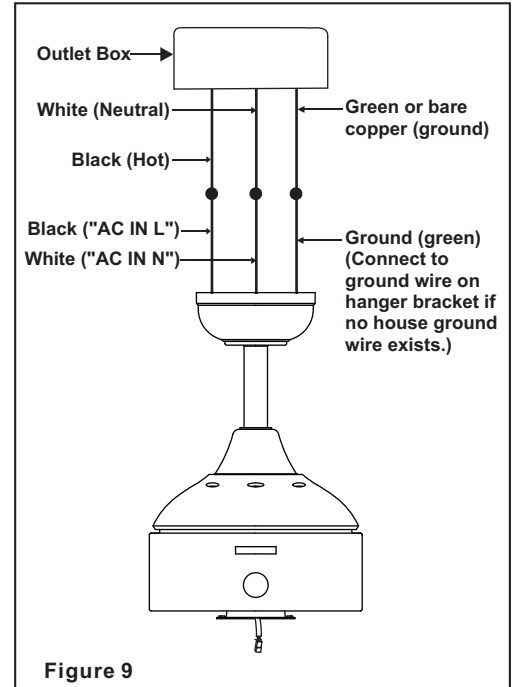

Figure 9
**Step 1.** Motor to House Supply Wires Electrical Connections: Connect the WHITE wire (Neutral) from the outlet box to the WHITE wire marked "AC in N" from the motor. (Fig. 9)
**Step 2.** Connect the BLACK wire (Hot) from the outlet box to the BLACK wire marked "AC in L" from the motor. (Fig. 9)